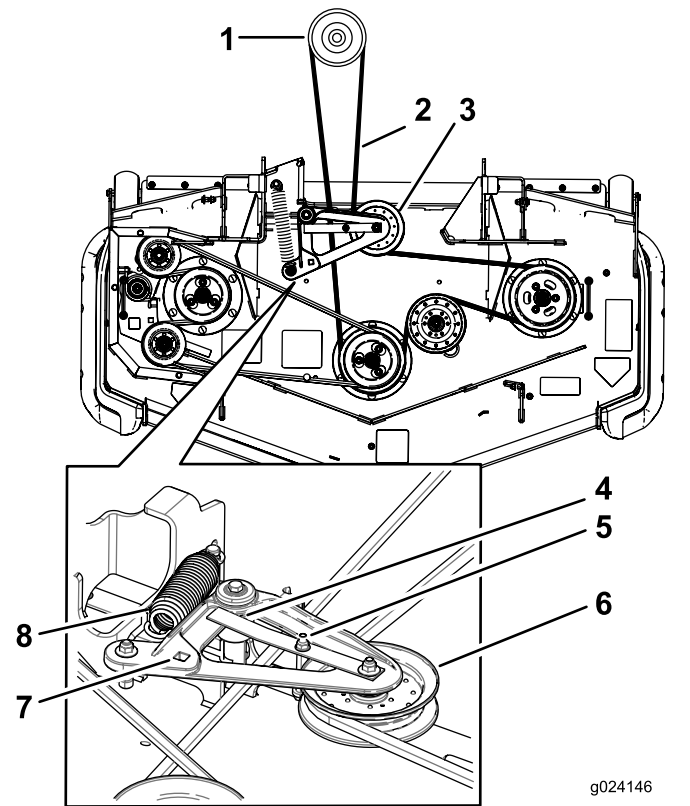

Figure 81
6. Use a ratchet in the square hole in the idler arm to remove tension on the idler spring (Figure 81).
8. Install the new belt around the mower pulleys and the clutch pulley under the engine (Figure 81).
9. Rotate and ensure the belt-guide tab hits against the pivot hub (Figure 81).
10. Using the ratchet in the square hole, install the belt around the spring-loaded idler pulley (Figure 81). Seat the spring ends in the anchor grooves.